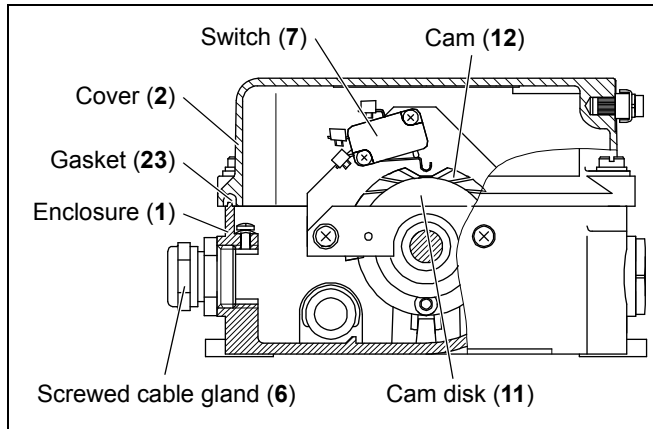

Fig. 5-11: Adjusting the switch points – Prying out the cam
7. Check the gasket (23) of the cover (2) for damage (see fig. 5-11).